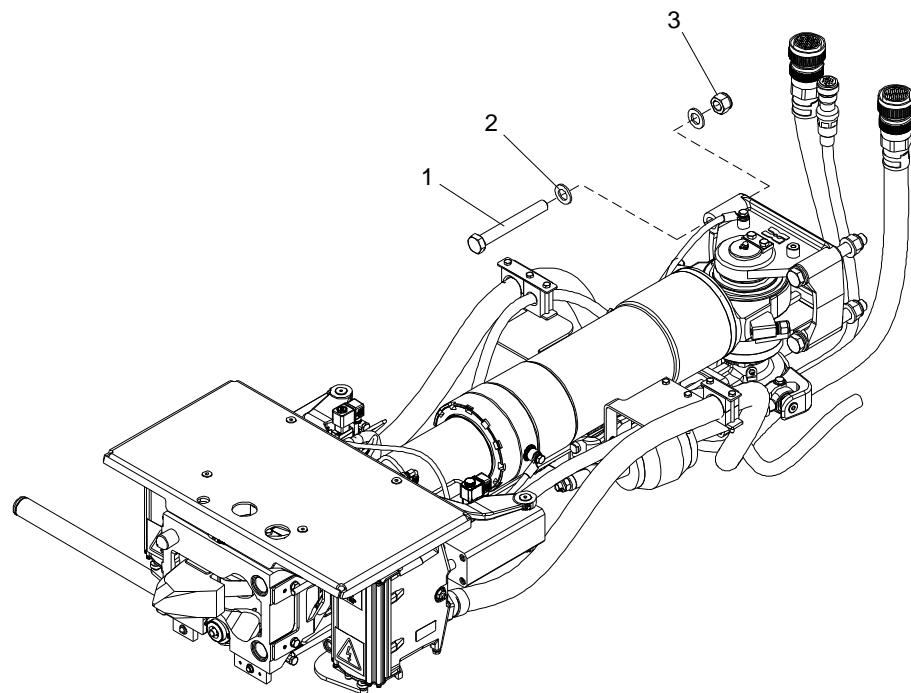

Figure 7-1: Replacement of Automatic Coupler / Mounting Kit
3. Remove the screws (1), nuts (3) and washers (2). Then carefully remove the coupler. See Figure 7-1.
3. Apply Molykote 1000 or similar to the screws (1). See Figure 7-1.
5. Fit the coupler to the vehicle and mount the screws (1), washers (2) and nuts (3). Torque to the required tightening torque.